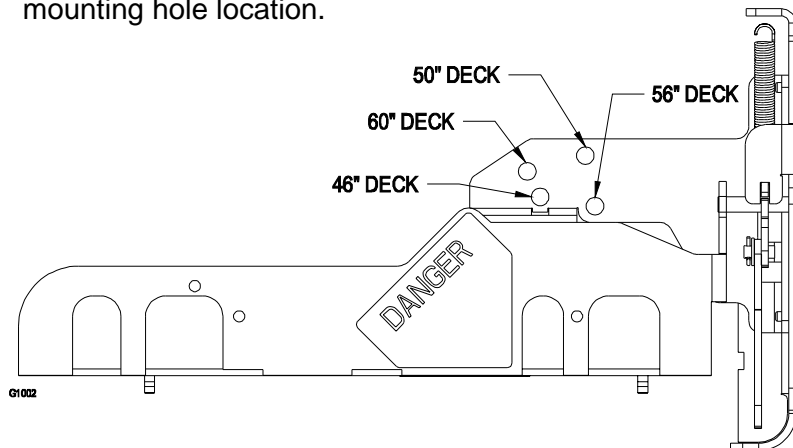
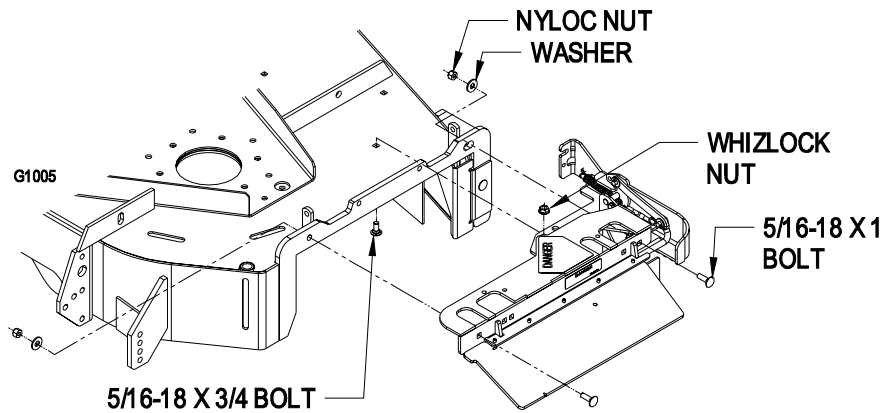
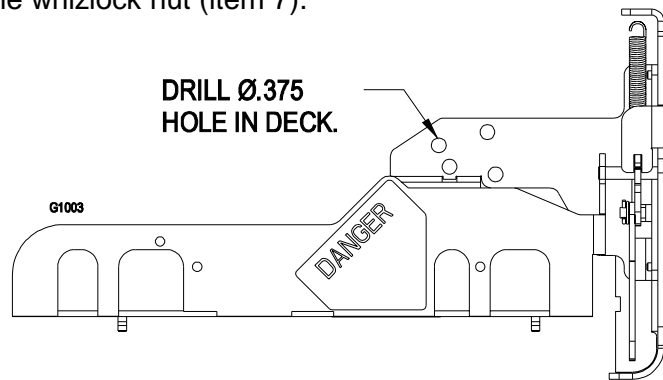

FIGURE 11D
FIGURE 11E
FIGURE 11F
- a) Locate the correct mounting hole as shown in Figure 11D. Install two 5/16-18 x 1 bolts (item 13) and fasten to the deck with washer (item 6) and nyloc nut (item 2). Install 5/16-18 x 3/4 bolt (item 18) from the bottom of the deck, and draw up into hole using the whizlock nut (item 7), see Figure 11E for correct mounting hole location.
- a) Install two 5/16-18 x 1 bolts (item 13) and fasten to the deck with washer (item 6) and nyloc nut (item 2) as shown in Figure 11E. Drill Ø.375 hole in the deck to mate up with the gate linkage assembly (item 12) where shown in Figure 11F. The drilled hole location will avoid under deck baffles on the deck. Install 5/16-18 x 3/4 bolt (item 18) from the bottom of the deck, and draw up into hole using the whizlock nut (item 7).